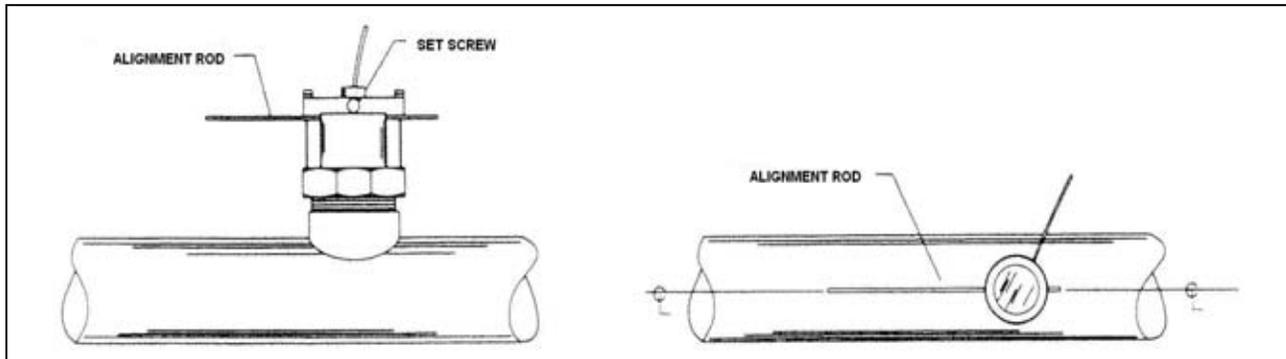

Figure 3
- Using the alignment rod as a guide, align the flow sensor so that the flow label arrow matches pipe flow direction and so that alignment rod is exactly parallel to the pipe. (Refer to Figure 3).